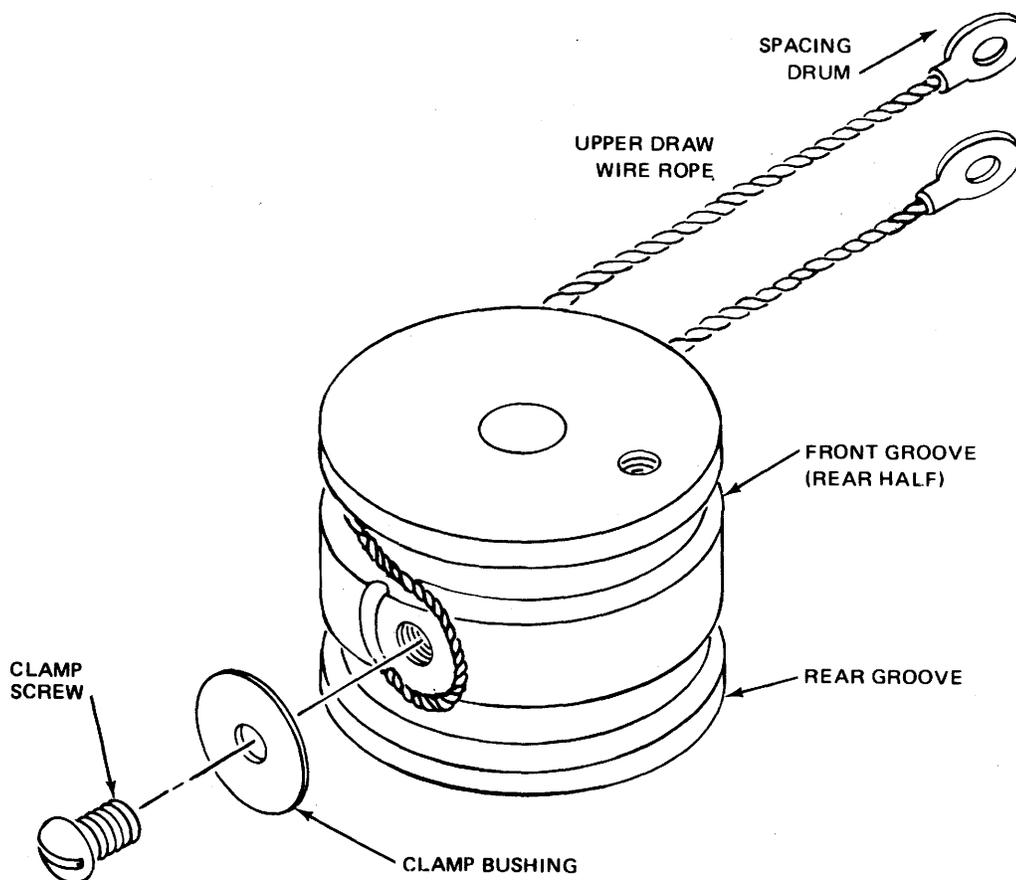

Figure 6-44. Upper Draw Wire Rope Routing on Spring Drum (Bottom View).
b. Place looped end of wire under rope clamp on spring drum; tighten clamp screw friction tight (see figure 6-44).